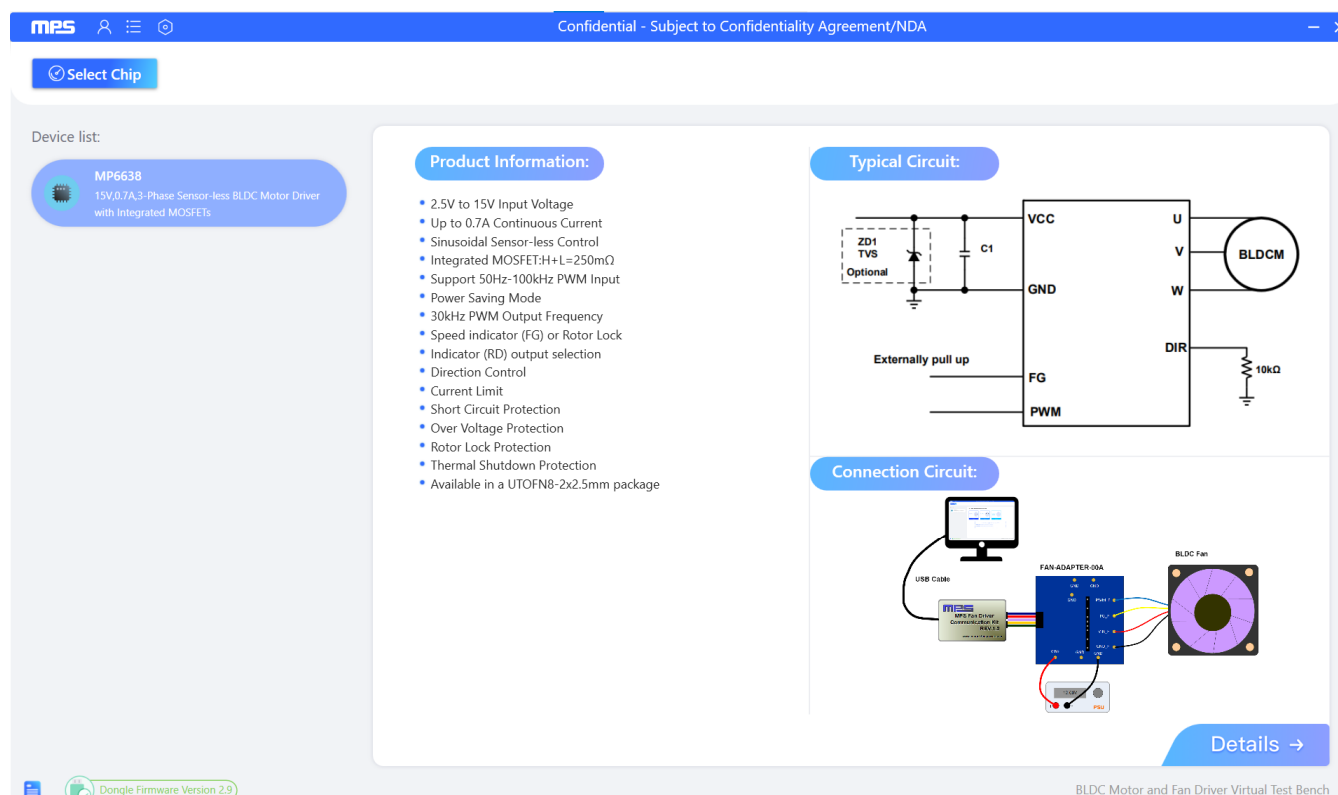

Figure 4: MPS BLDC Virtual Test Bench GUI Interface
3. Click on “Details” to enter the test mode interface (see Figure 4).